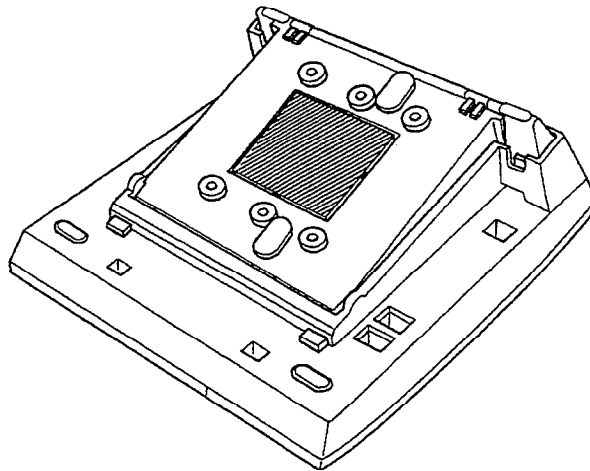

Figure 4-19 Removing the Knockout
2. Remove the knockout on the base unit with nippers. The shaded area in Figure 4-19 Removing the Knockout is the knockout.